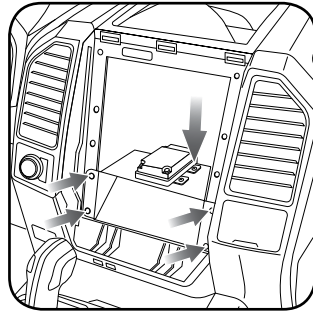

Fig. 9.0
- If the camera module is present, mount it to the supplied mounting bracket using (3) M6 bolts and washers included with the FTR1 kit. Connect it. Insert in dash (area where OEM radio was) and secure it with (4) 7mm screws. (Fig. 9.0)